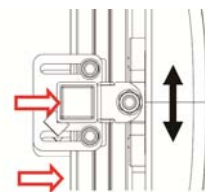

Figure 5-48
5.3.3.5.4.1 When adjusting the calf pad upwards, downwards, forwards or backwards, use the #5 Allen Key Wrench to loosen the four bolts on both sides. (Figure 5-48) After adjusting the calf pad to the appropriate position, re-tighten the bolts.